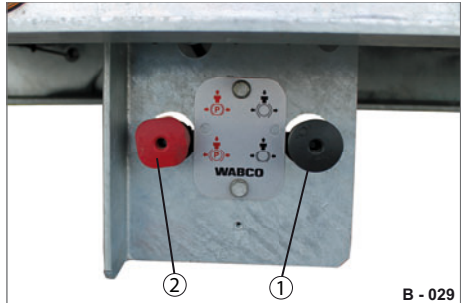

Fig. 17 Operating console
- ▶ Press the release valve (Fig. 17/1).
- ▶ Pull the release valve (Fig. 17/1).